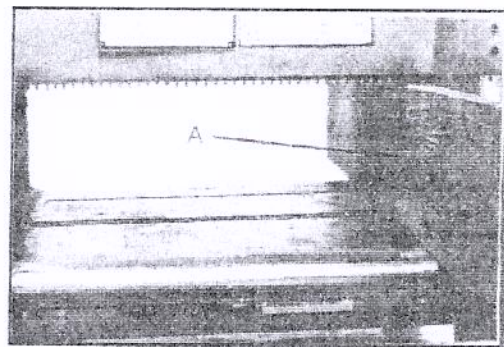

Fig. 23
3. Move gage block(A)Fig.23,to opposite end of table, as shown. Distance from table to edge of head casting should be the same.